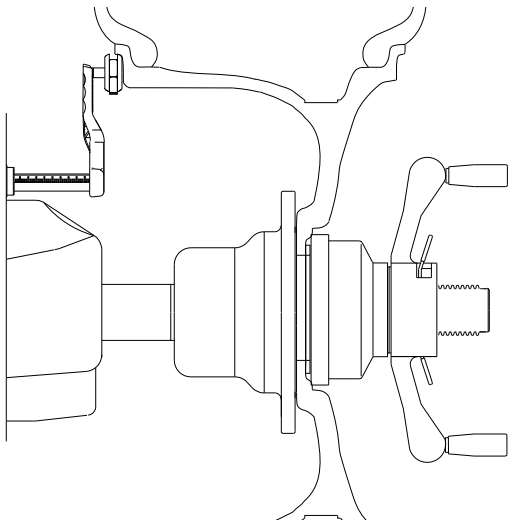

Figure 22
4.5.1 Rim Distance (offset) - Move the rim offset arm to the edge of the rim, touch the pointer to the rim edge as illustrated in Figure 22 and hold steady for about a second. The beeper will sound when the distance and diameter values are calculated and entered. Return the arm to its fully in and down position on the balancer. Do not allow the measurement arm to "dangle" down in front of the balancer.